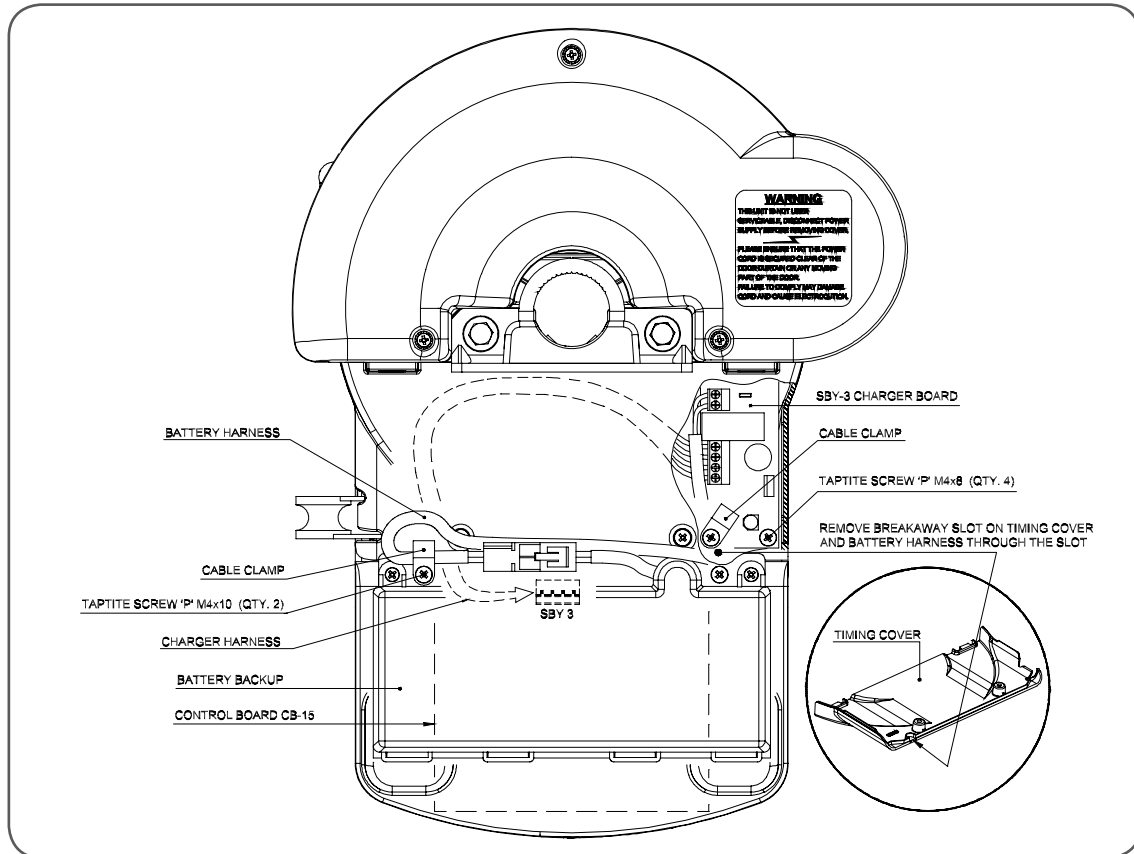

Fig 39
- Remove cable clamp and screw (Fig. 39). Retain cable clamp for later use.
- Mount the SBY-3 Charger Board on base and secure with four (4) Taptite 'P' M4 x 8 screws.
- Feed 4-Wire harness around timing assembly, through opening and plug into control board's SBY-3 connector (Fig. 39).
- Connect battery harness together (Fig. 39).